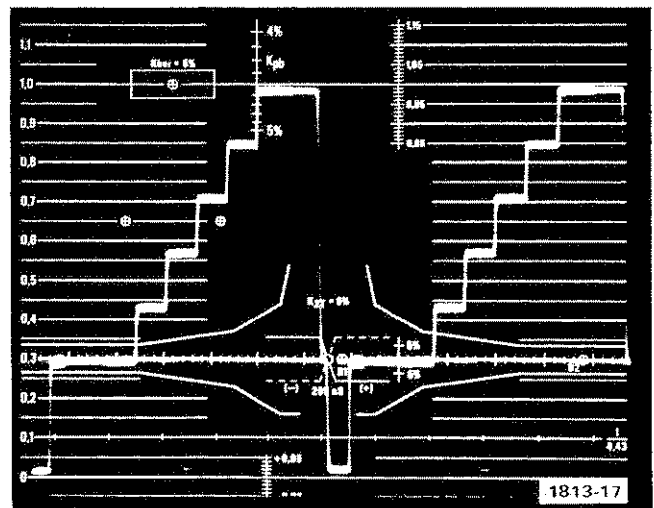

Fig. 2-11. Effect of the IRE filter on an NTSC modulated staircase signal.
4. LUM. Set INPUT to B and RESPONSE to FLAT. Set the NTSC composite video source for a modulated staircase. Observe the FLAT response and then switch to IRE. Note the attenuation of the chrominance component and clean riser steps (see Fig. 2-11).